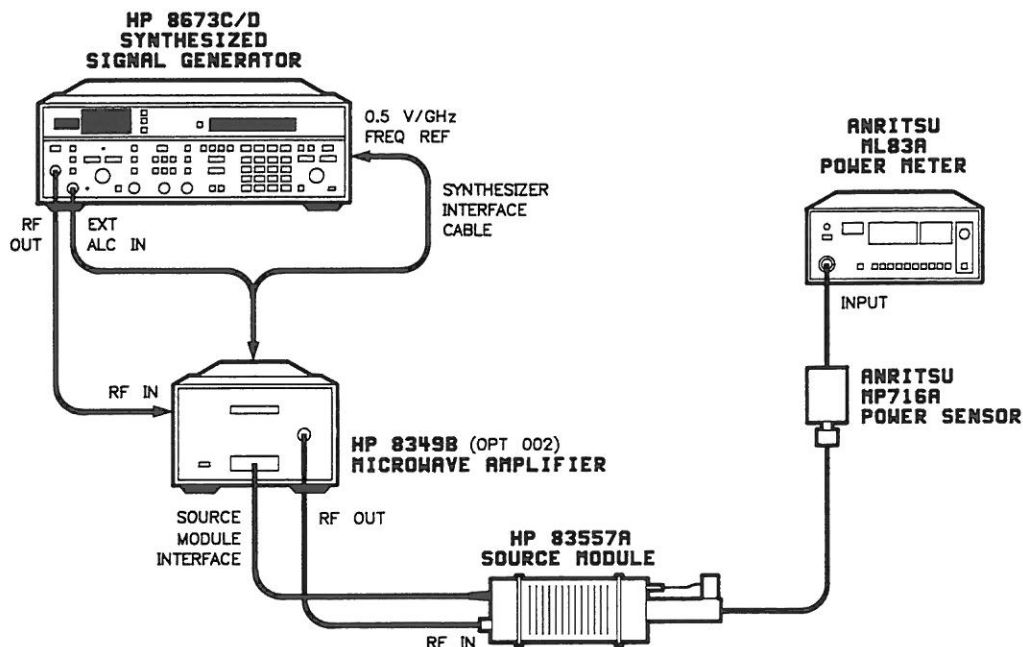

Figure 2d-3. System Configuration
1. Connect the equipment as shown in Figure 2d-3. Do not connect the power sensor to the HP 83557A output.